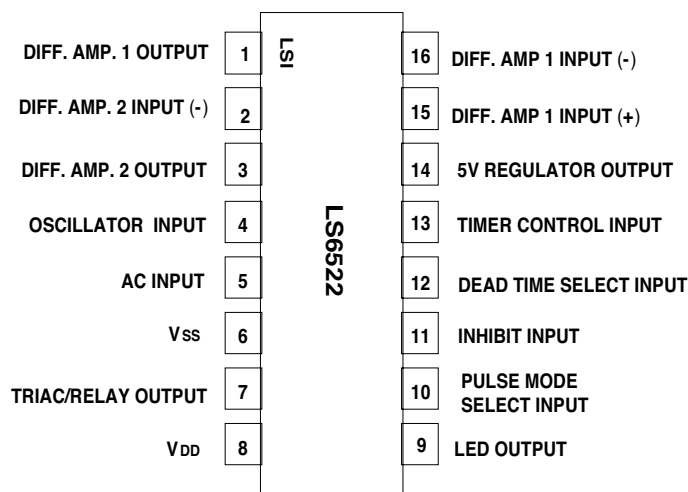

FIGURE 1
- LS6522 (DIP); LS6522-S (SOIC-NB); LS6522-SW (SOIC-WB) - See Figure 1